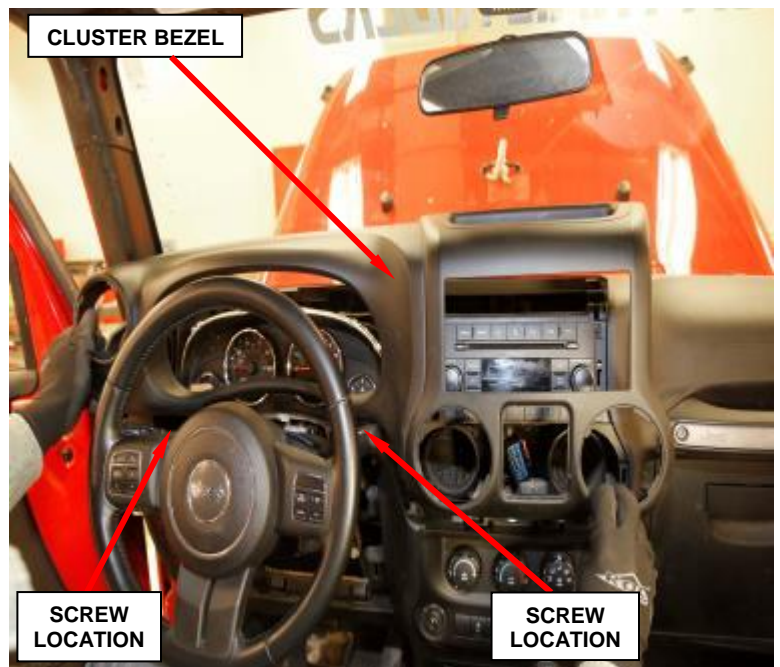

Figure 124 – Cluster Bezel Screws
19. Remove the two screws below the cluster on both sides of the steering column (Figure 124).